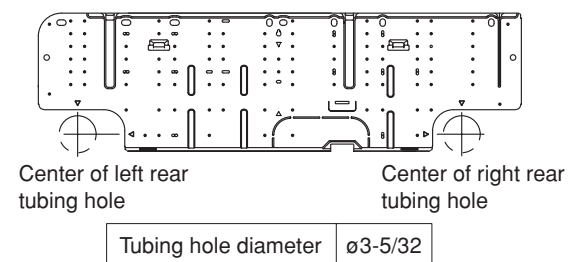
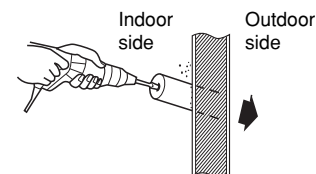

Fig. 3-112
Fig. 3-113
- (1) Remove the rear panel from the indoor unit and place it on the wall at the location selected. Fix the rear panel and hook the unit onto it temporarily. Make sure the unit is horizontal using a carpenter's level or tape measure to measure down from the ceiling.
- (2) Determine which notch of the rear panel should be used. (Fig. 3-112)
- (3) Before drilling a hole, check that there are no studs or pipes behind the determined location. The above precautions are also applicable if tubing goes through the wall in any other location.
- (4) Using a sabre saw, key hole saw or hole-cutting drill attachment, make a hole (dia. 3-5/32") in the wall. (Fig. 3-113)